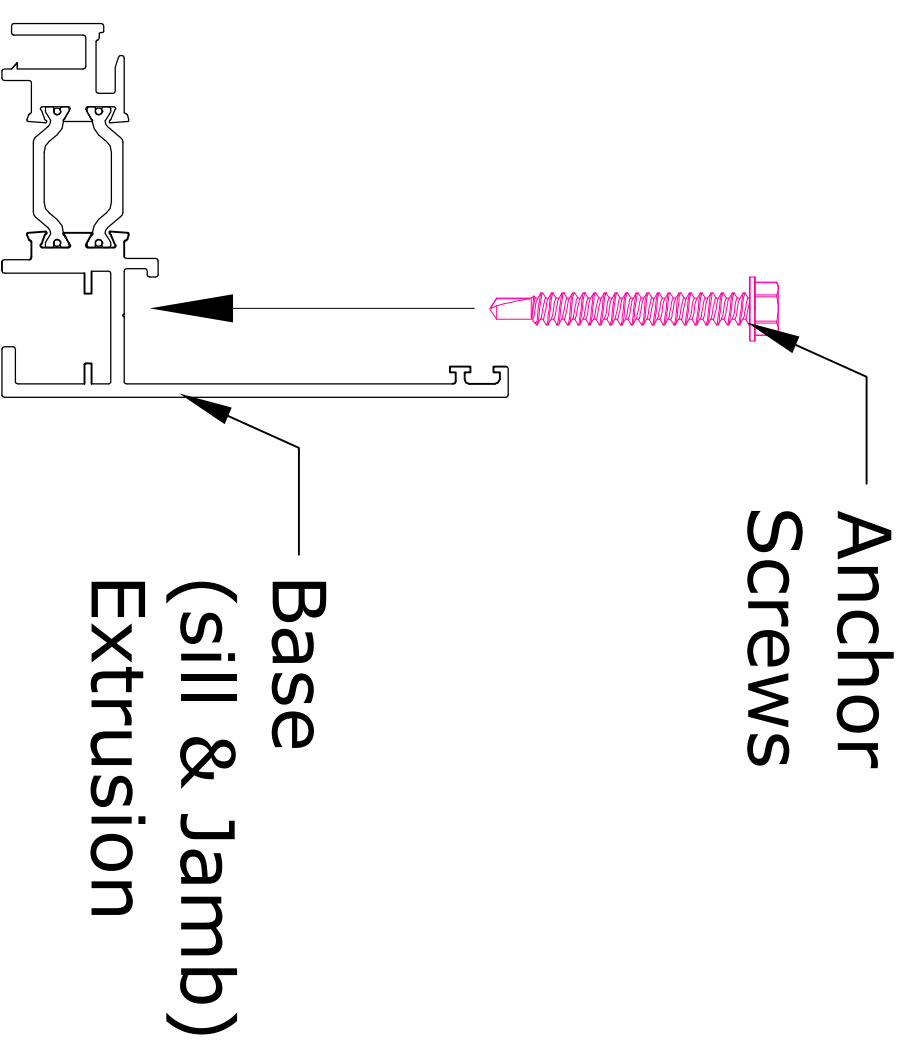

Fig 4
- 3.) Install the anchor screws (furnished by SIP) in ALL pre-drilled holes. See Fig 4.
- 3.) Install the anchor screws (furnished by SIP) in ALL pre-drilled holes as shown in Fig 4 on previous page.